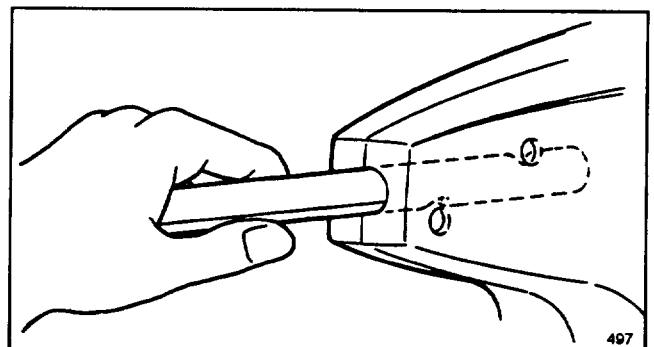

Figure 5
6. Grasp handle tube firmly and slide tube into battery housing. Make sure the cutter shield is in the proper operating position. Align screw holes in housing with grooves in tube (Fig. 5).